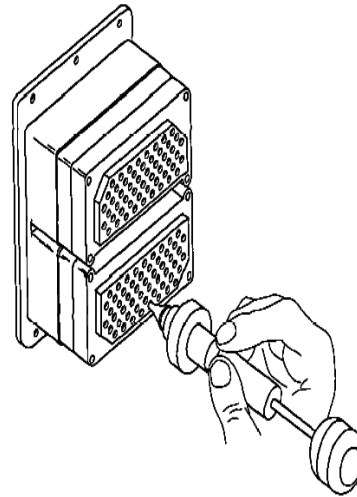

Figure 20. Unwired Contact Removal Tool
- e. Insert removal tool tip into contact cavity to butt contact wire barrel; then slide removal sleeve over contact and exert pressure until sleeve bottoms. (Figure 20).